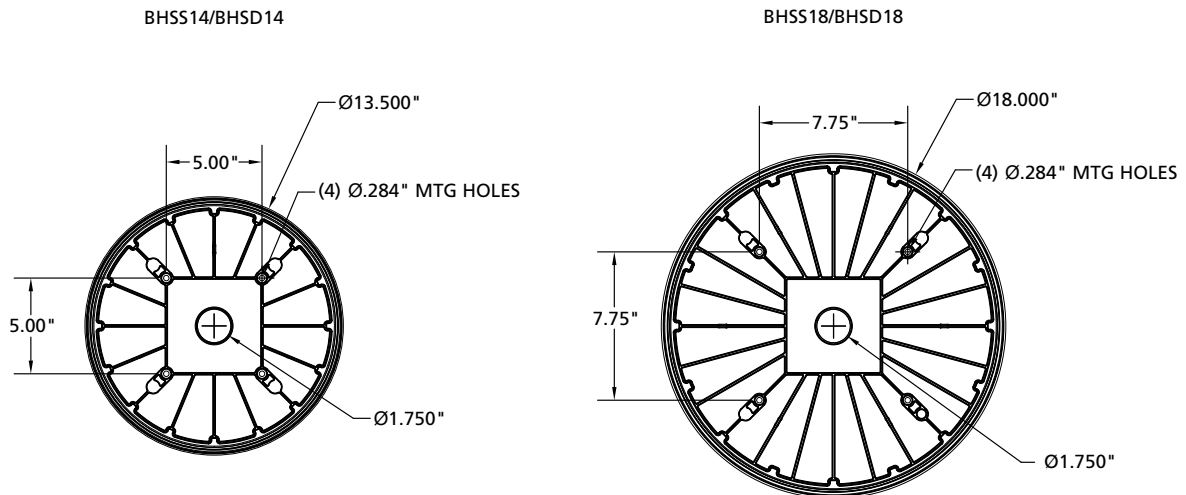

Figure 1
2. Prepare mounting surface by locating and drilling pilot holes and installing junction boxes. See Figure 1.